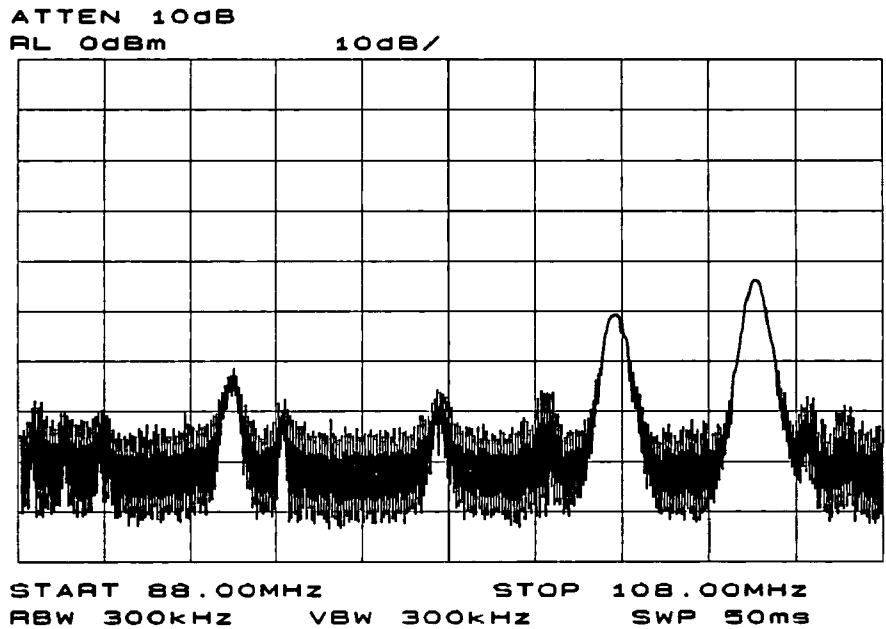

Figure 3-1. Spectrum Analyzer Tuned to Sweep the FM Band
1. Connect an antenna to the spectrum analyzer input. Select a frequency range on the spectrum analyzer, such as the range for FM radio broadcasts: 88 MHz to 108 MHz in the USA and Canada. Press **FREQUENCY** and the key **START**, then key in 88 **MHz**. Press the key **STOP** and key in 108 **MHz**. See Figure 3-1.